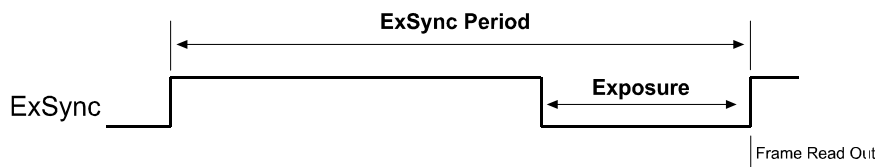

Figure 3-4: ExSync Level-controlled Mode
- In **ExSync level-controlled** mode, the exposure time is determined by the time between the falling edge of ExSync and the next rising edge. The pixels are exposed and charge is accumulated only when ExSync is low. The frame is read out and transferred on the rising edge of the ExSync signal (see Figure 3-4).